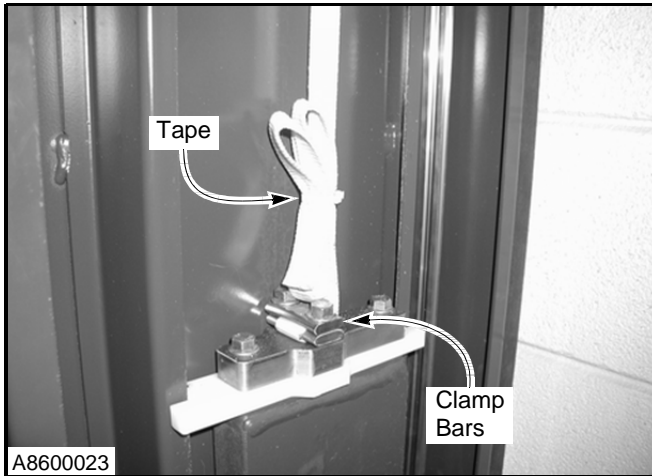

Figure 45
7. Remove the tape wrapped around the loose end of the strap. (See Figure 45)